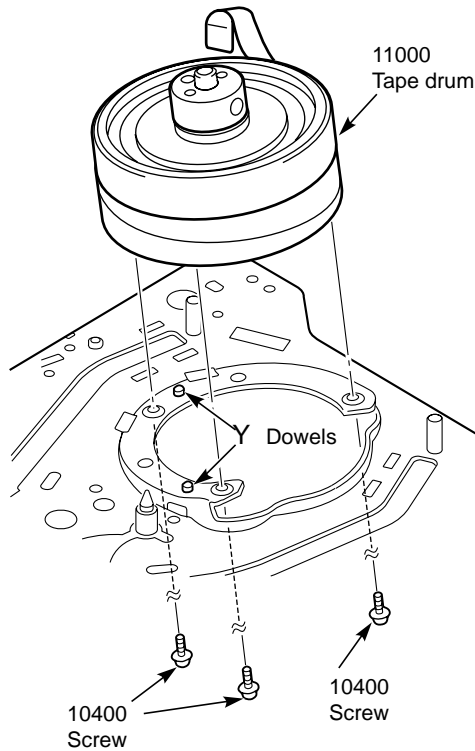

Fig. 8.38
Note: When refitting the tape drum (Pos. 11000) align it to match with the two dowels (Y) of the mounting base on the mechanism chassis (Fig. 8.38).